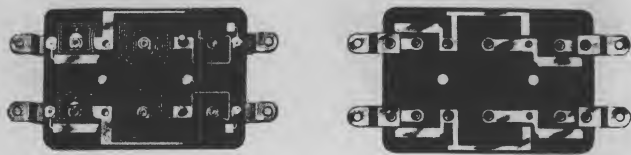

Fig. 11-8. UHF-vhf antenna couplers. Courtesy Vee-D-X.
a. Networks such as those shown in Figs. 11-8 and 11-9 provide a means of bringing the output from separate vhf and uhf antennas into a receiver. The networks consist of tuned circuits, which effect isolation between antennas.